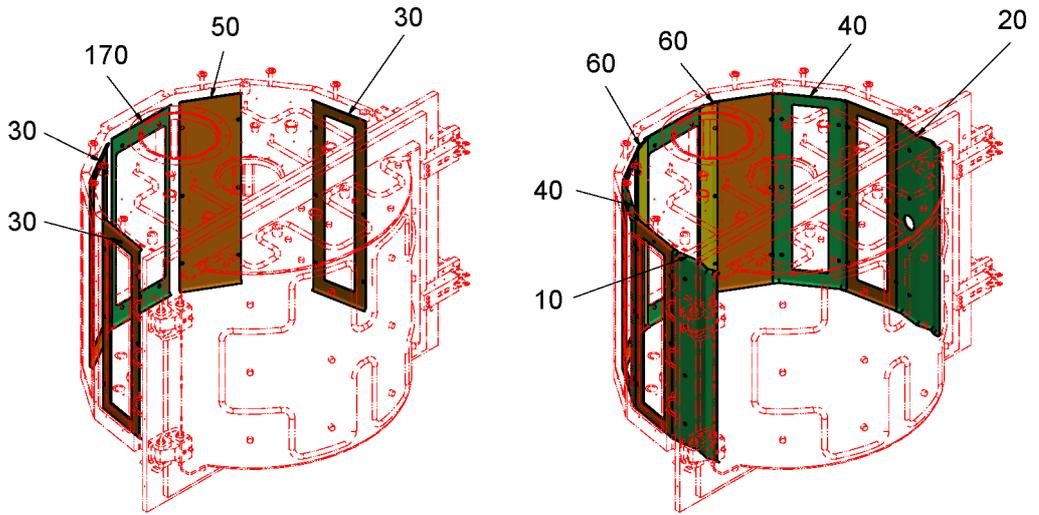

Fig. 7-11
3 Remove the side shields. See Fig. 7-11, 175.
- 17** Mount the side shields. See Fig. 7-11,  175.